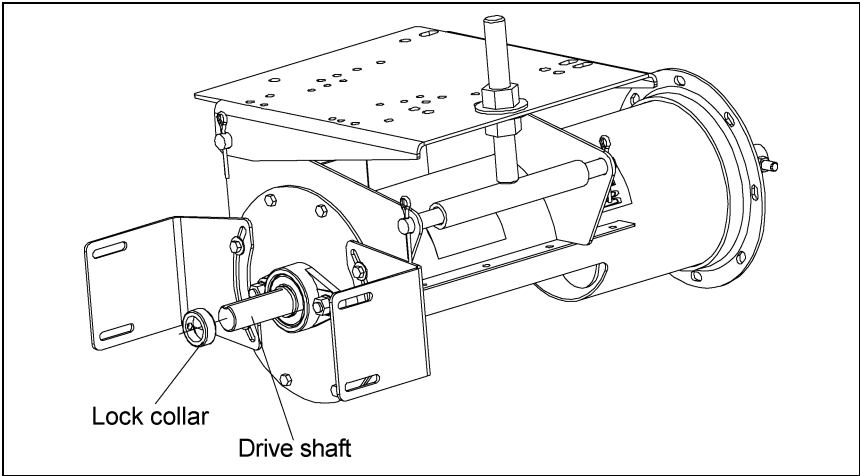

Figure 4N
- A. Slide the lock collar over the drive shaft, positioning it against the bearing. Do not tighten the lock collar at this time as it will be tightened later in the assembly. (See Figure 4N.)